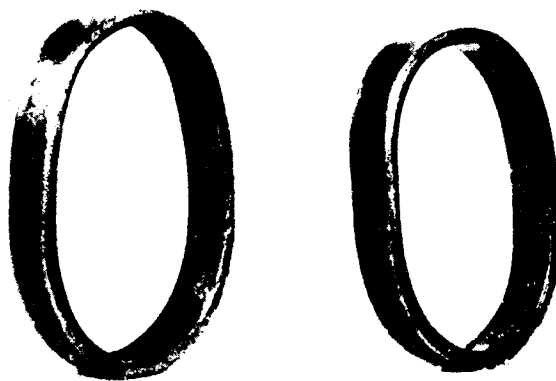

FIGURE 20. STOCK BANDS FOR RIFLE M1891/30.
e. The two stock bands are of the split-ring type (fig. 20).